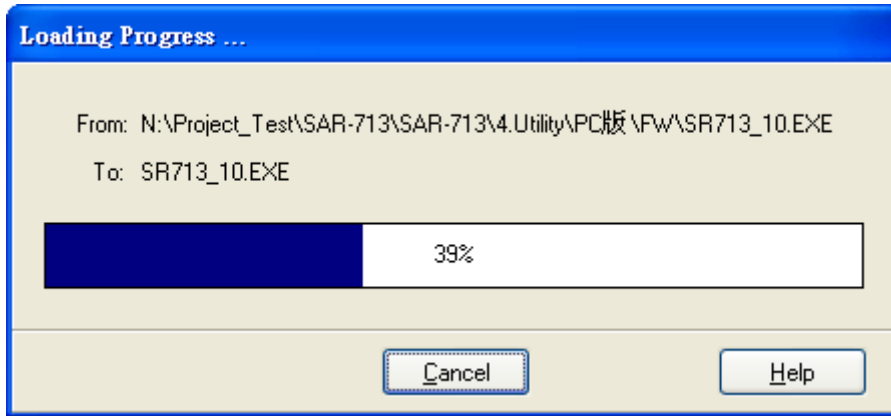

Fig 9.1-7 Firmware Upload
- (3) Choose firmware files of SAR-713 including "autoexec.bat" and "SR713_10.EXE" files and click right button of mouse to choose the "Upload" function. Then it will start the firmware upload process like Fig 9.1-7.